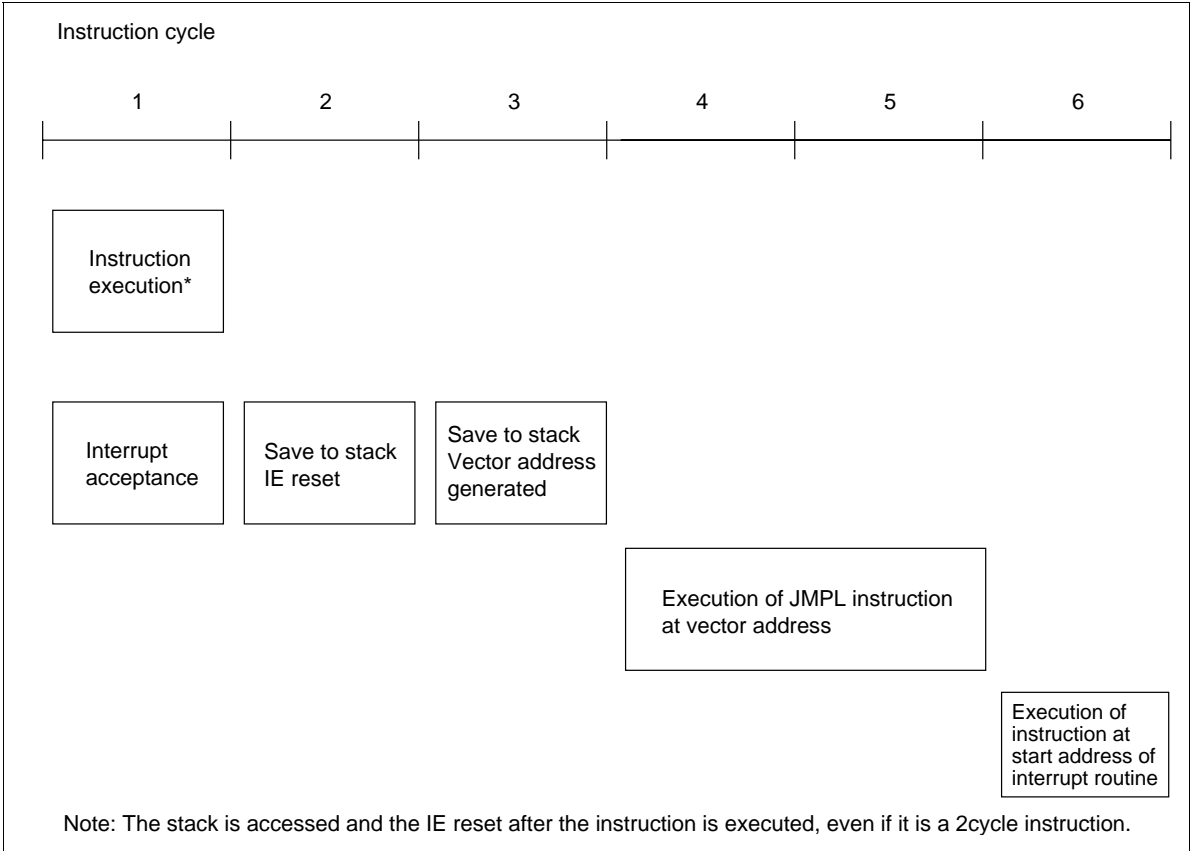
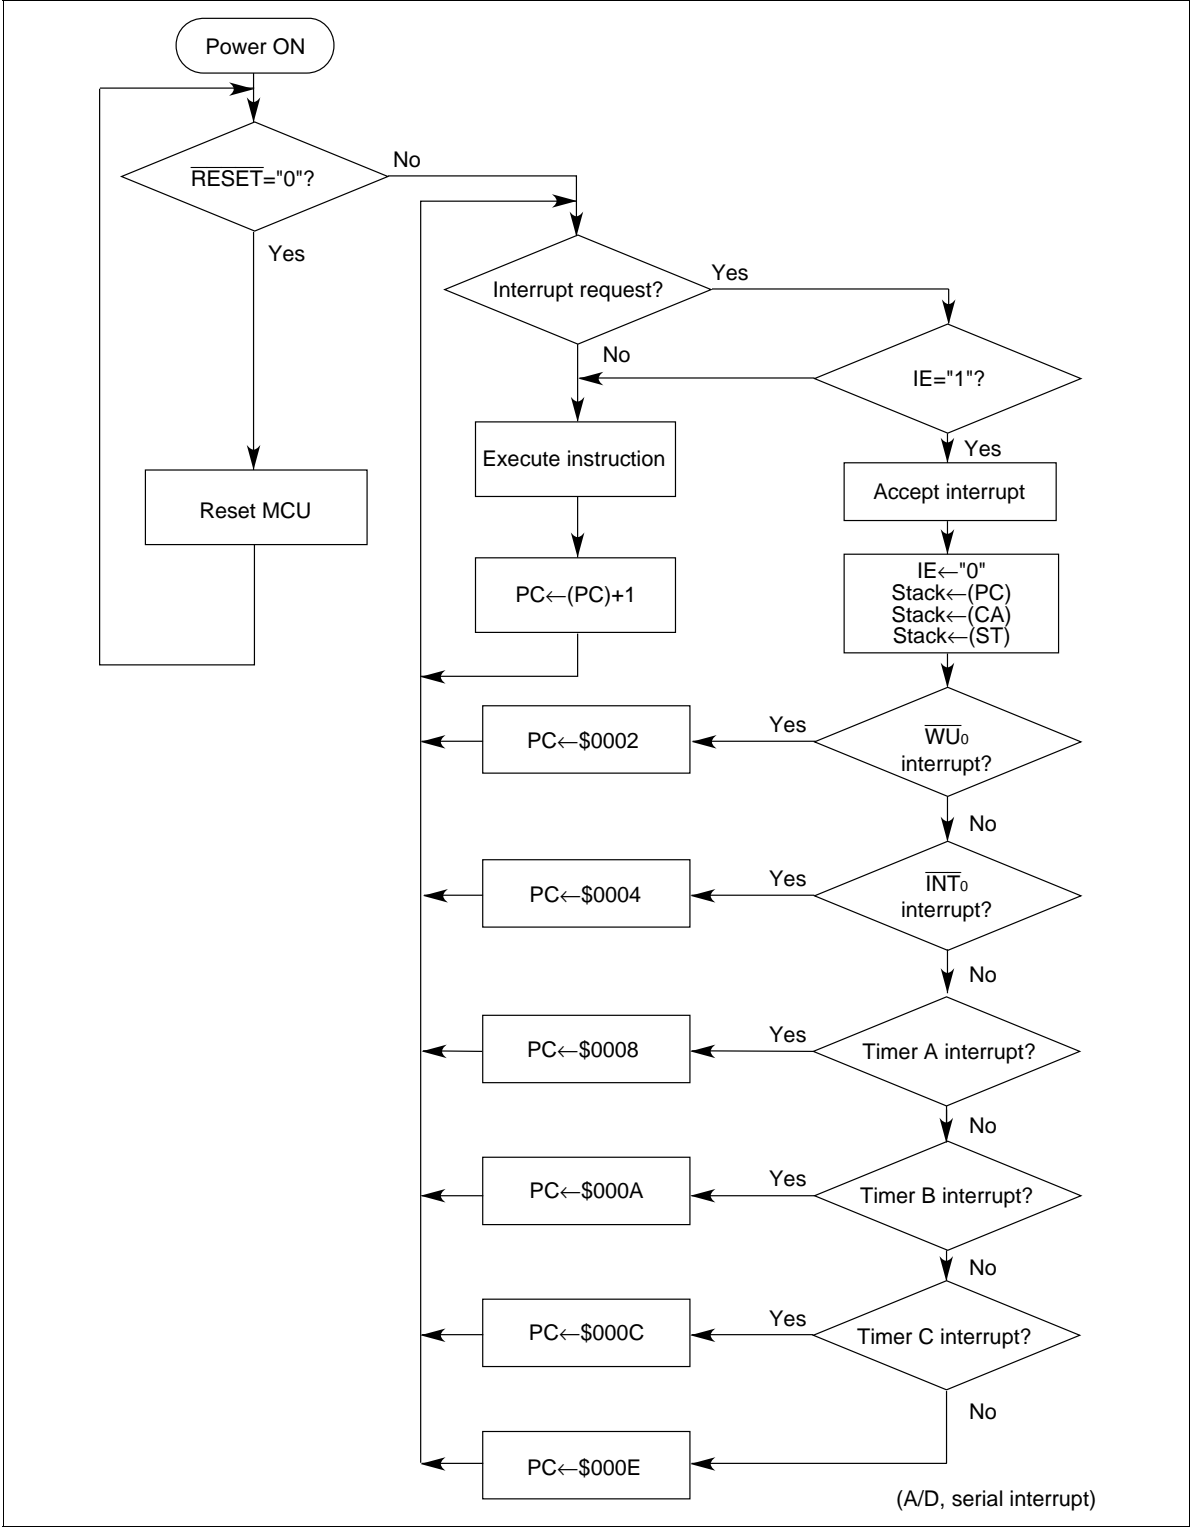

Figure 9 Interrupt Sequence
Figure 10 Interrupt Handling Flowchart
The interrupt handling sequence is shown in figure 9, and the interrupt handling flowchart in figure 10. When an interrupt is accepted, execution of the previous instruction is completed in the first cycle. In the second cycle, the interrupt enable flag (IE) is reset. In the second and third cycles, the contents of the carry flag, status flag, and program counter are saved on the stack. In the third cycle, a jump is made to the vector address and instruction execution is resumed from that address.